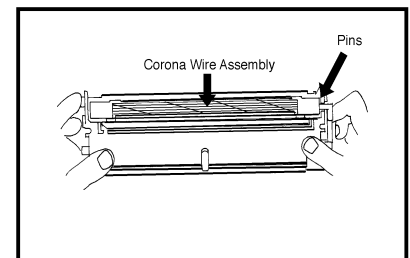

Figure 3
6. While holding the waste bin, push the corona wire assembly to the left until it's pins separate from their holes, and lift up and to the right to remove (Fig 3).